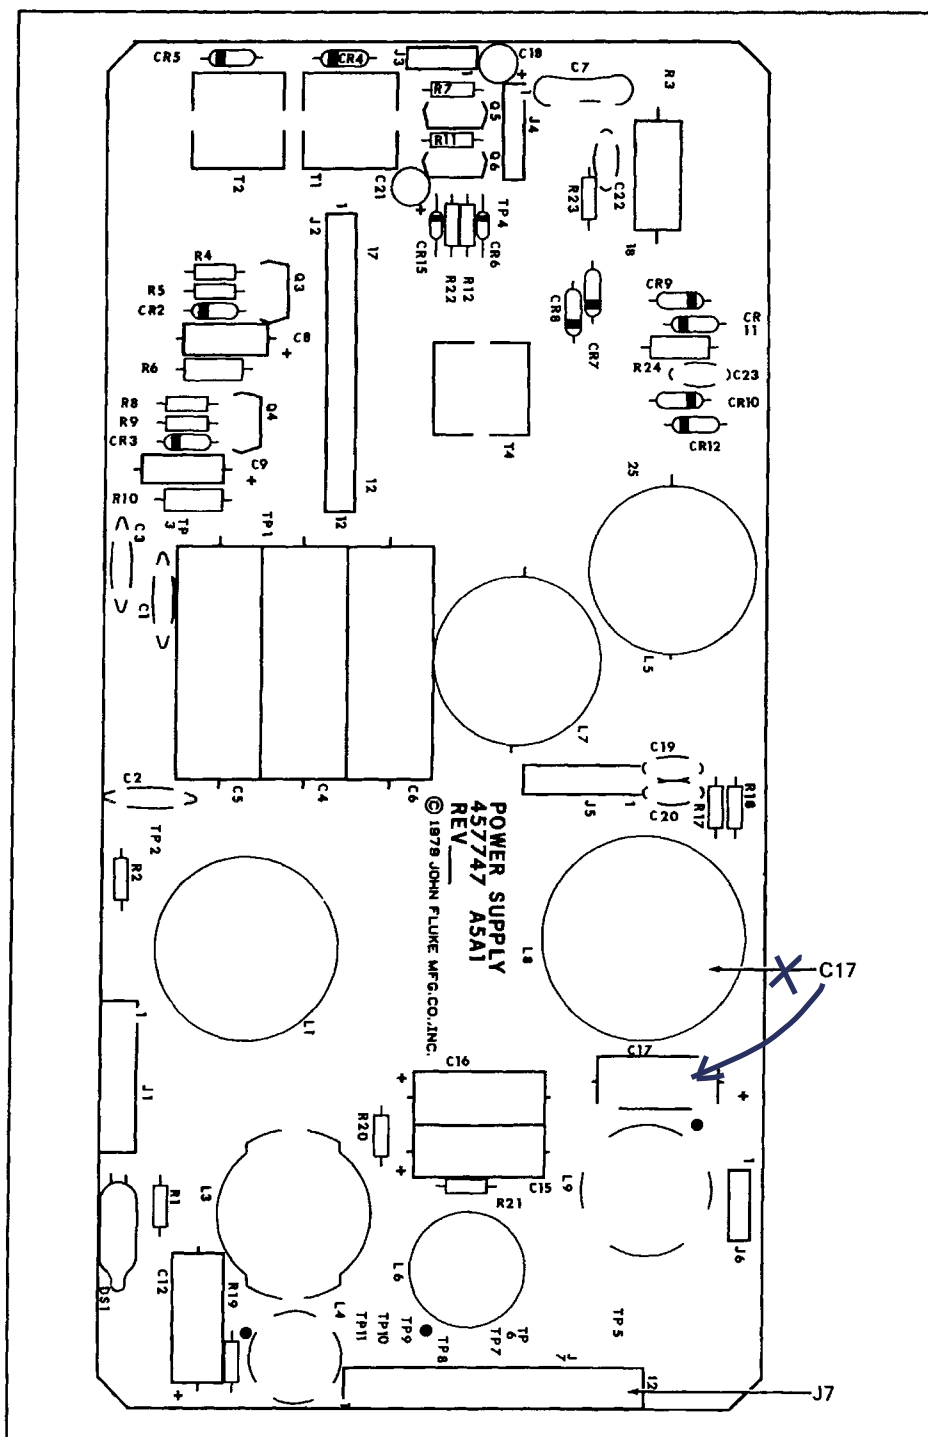

Figure 6-3. A5A1 Power Supply PCB
- a. Connect the DVM across C17 on the A5A1 Power Supply PCB (Figure 6-3).
- c. Connect the DVM across the pins of J7 on the A5A1 Power Supply PCB (Figure 6-3) listed in Table 6-2. Verify that the voltage displayed on the DVM is within the indicated limits for each measurement.